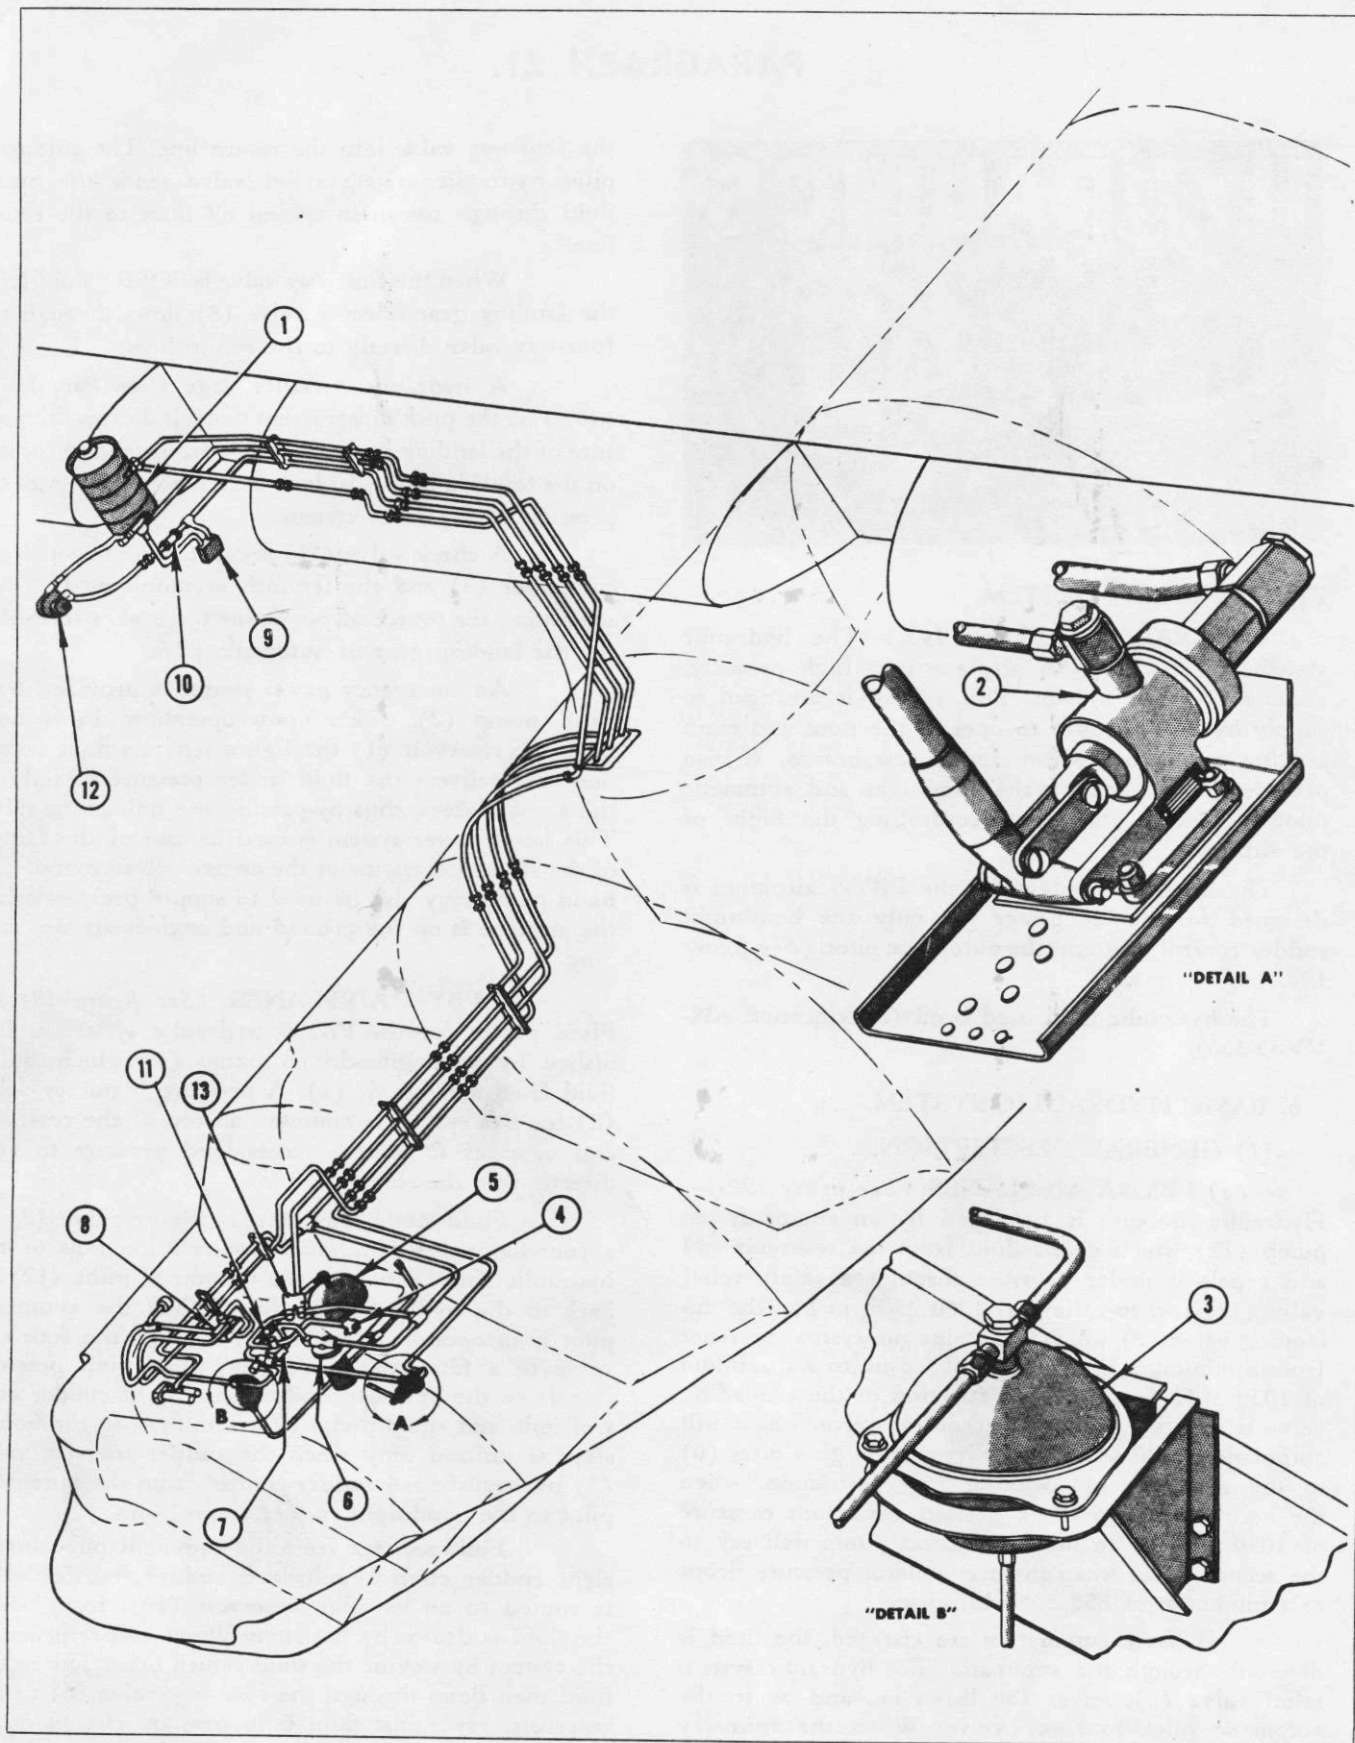

Figure 192—Basic Hydraulic System Diagram (PBY-5A Only)
(a) PBY-5A AIRPLANES. (See figure 192.)—Hydraulic pressure is furnished by an engine-driven pump (12) which draws fluid from the reservoir (1) and expels it under pressure through a safety relief valve (13) (set to relieve at 1250 lb/sq in.) to the unloading valve (7) which maintains the system pressure from a minimum of  $850 \pm 50$  lb/sq in. to a maximum of  $1050 \pm 50$  lb/sq in. The function of the unloading valve is to act as a pressure control valve, which will automatically divert pump delivery through a filter (6) to the reservoir (1) without flow restriction, when the accumulators reach a desired maximum pressure of  $1050 \pm 50$  lb/sq in. or to direct pump delivery to the accumulators when the accumulator pressure drops to a minimum of  $850 \pm 50$  lb/sq in.